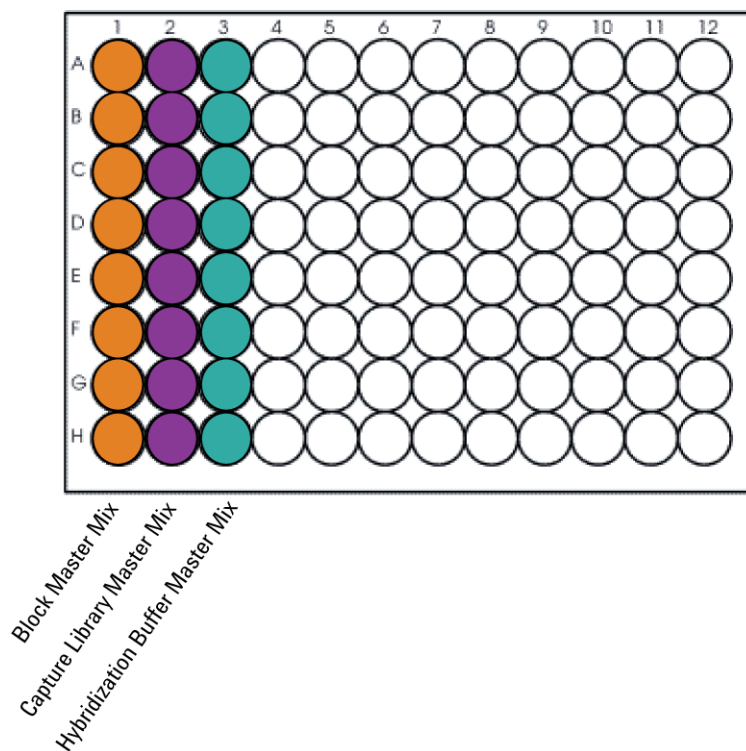

Figure 11 Configuration of the master mix source plate for SureSelectHybridization_v1.0.pro.
- 9 In a Nunc DeepWell plate, prepare the master mix source plate containing the master mixes prepared in step 5 to step 7 at room temperature. Add the volumes indicated in Table 47 of each master mix to each well of the indicated column of the Nunc DeepWell plate. When using multiple capture libraries in a run, add each Capture Library Master Mix to the appropriate row(s) of the Nunc DeepWell plate. The final configuration of the master mix source plate is shown in Figure 11.